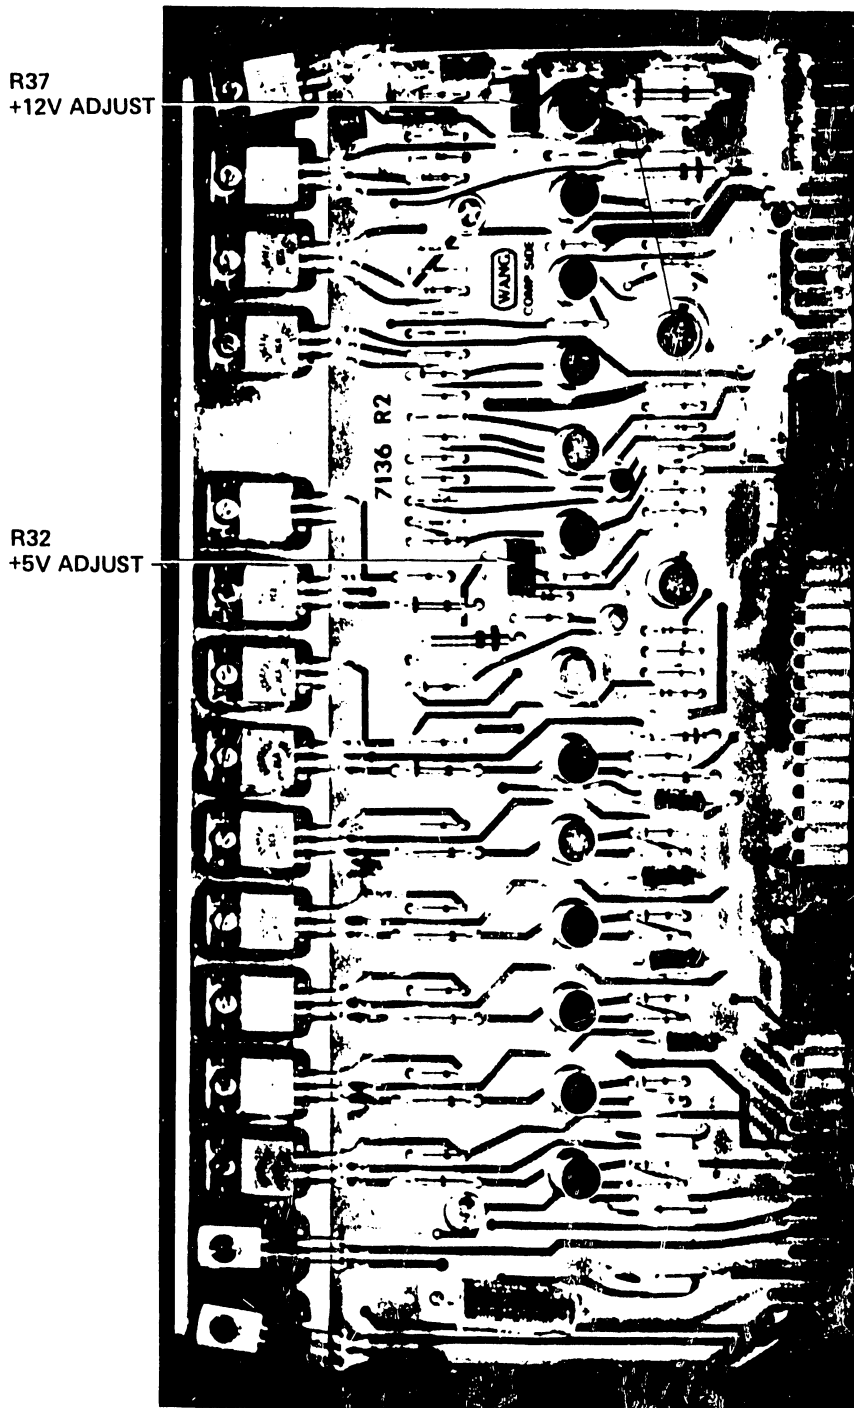

Figure 5-3. 7136 PCB – Voltage Adjustments
2. Check for  $+5 \pm .1V$  VRSW at connector pin  $12_1$ . Adjust this voltage to the correct level by R-32. See Figures 5-3 and 5-4.
3. Check for  $+12$  to  $+12.5$  VRSW at connector pins  $A_1$  and  $1_1$ . Adjust to the correct level by R-37. See Figures 5-3 and 5-4.